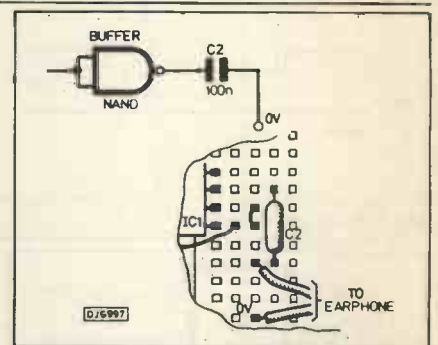

Fig. 13 Adapting Fig. 12 for audio output.
9. Replace R1 with a 1k resistor. Remove the led (or logic probe) from the circuit and connect a crystal earphone instead (Fig. 13). Switch on, then put the earphone to your ear. What can you hear? The astable is oscillating at an audio frequency, which can be heard as a note. Try other values of resistors and